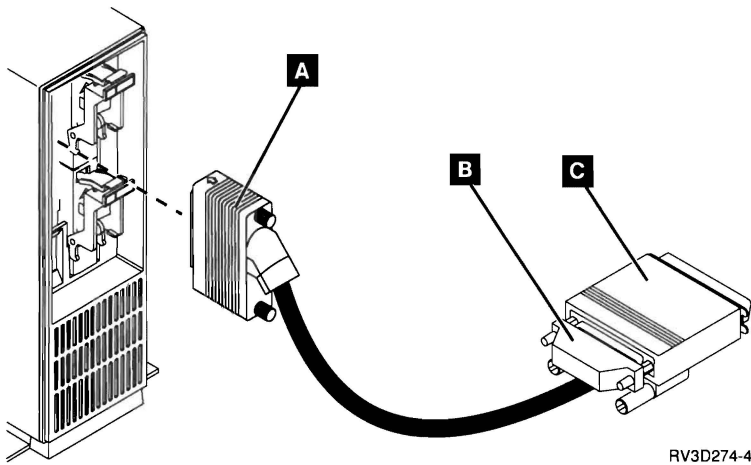

Figure 5-1. The SCSI cable for IBM type 3450 or 7207 devices.
Install the terminator (that was removed in step 5 of this procedure) to the terminator connector at the tape unit end of the SCSI cable. See Figure 5-1 on page 5-3, **B**.
- 8** Connect the system-unit end **A** of the SCSI cable to the SCSI connector on back of the 9401 System Unit. See Figure 5-1 or Figure 5-2 on page 5-3.